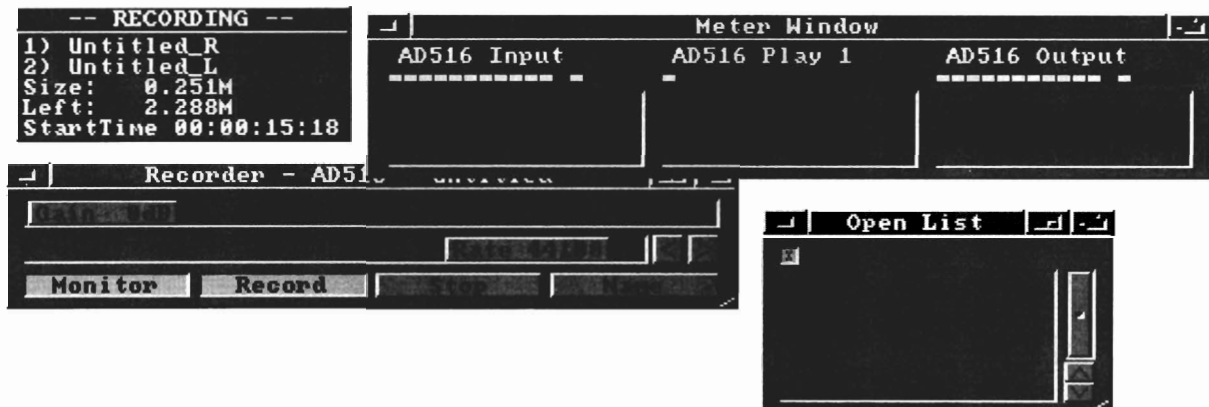

Figure 3-1. Recorder and Meters
1. Load Recorder, Open List and Meters from the Applications Menu. Close any other modules that are open. Figure 3-1.
7. Set the proper **Gain** setting by watching the meters for clipping. Clipping results from the gain being set too high. It is indicated on the meters by the VU meter going into the (+) section, the LED meter flashing on the far right side, and the scrolling graph meter peaking off the top and bottom. Adjust the **Gain** so that clipping rarely, if ever, occurs. Figure 3-1. See the Meter Reference Section for more information.